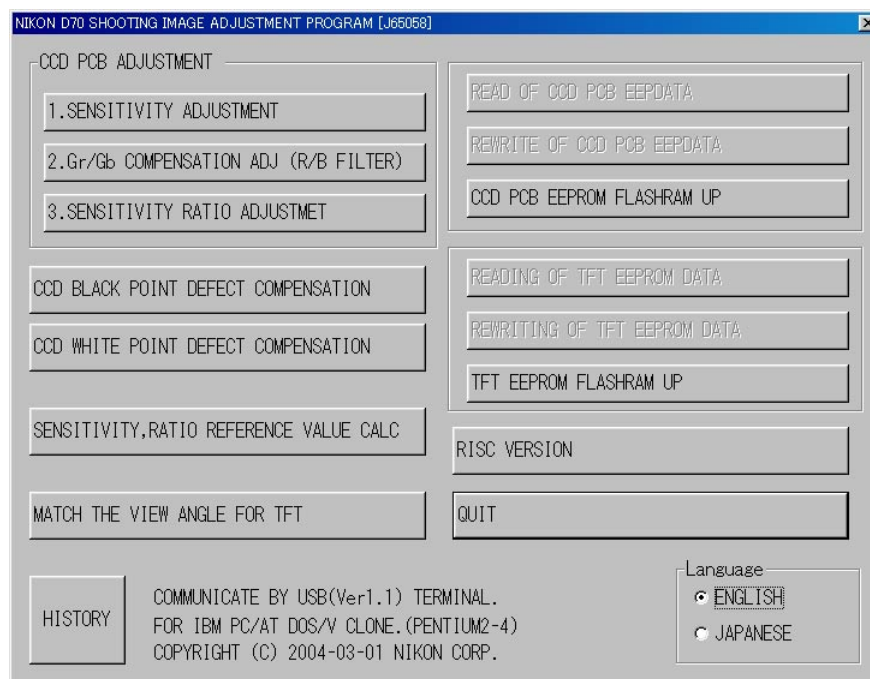

Fig.1
- (1) Perform the D70IMG.exe to start up the main screen. (ref. Fig.1)